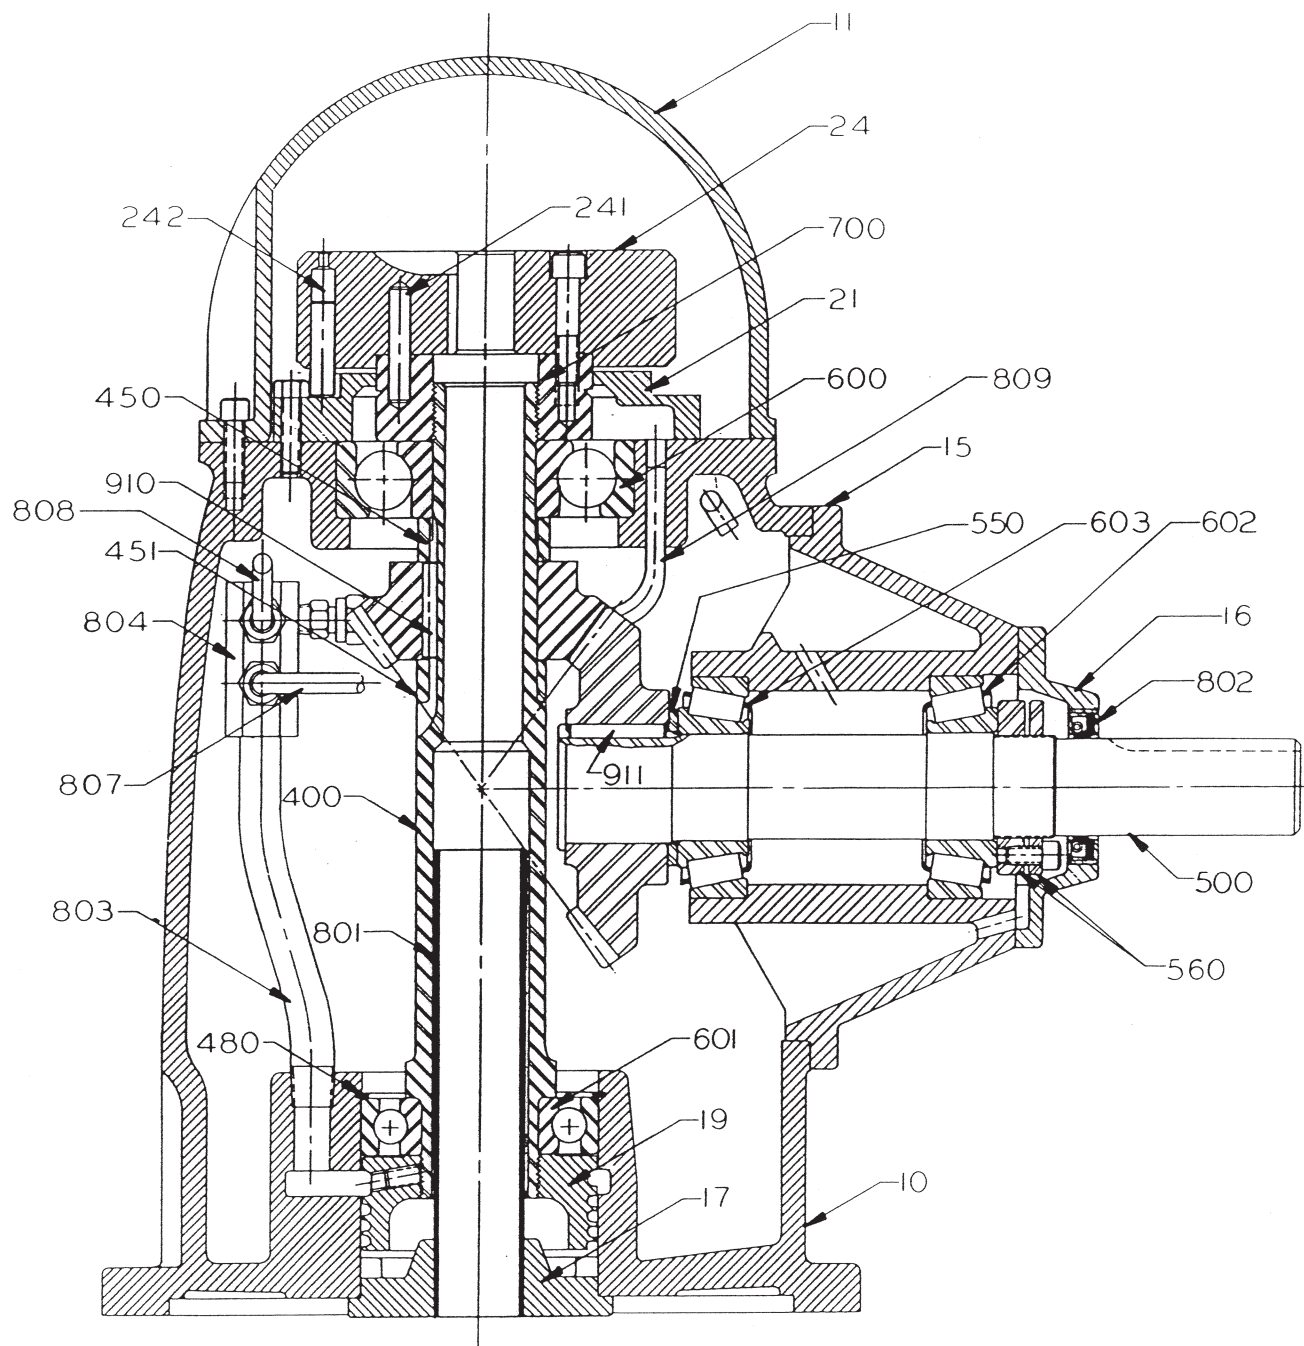

Figure 11
- 11.1 Refer to Figure 11 during disassembly and re-assembly.